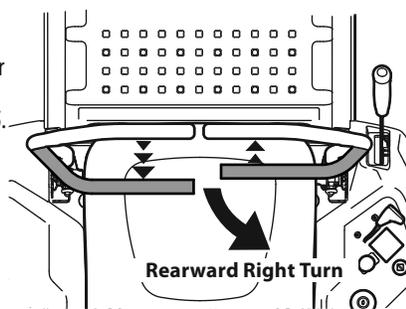

Figure 25
2. To turn to the right while traveling in reverse, move the right drive control lever forward of the left drive control lever. See Figure 25.